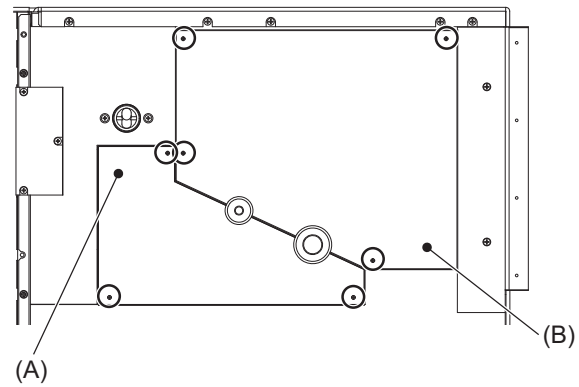

Fig.1
- (1) Remove control box cover with procedure [2]-1.
- (2) Remove the fixing screws (three) of the heat exchanger cover (A), and remove the cover (A). (Fig.1)
- (3) Remove the fixing screws (four) of maintenance cover (B), and remove the cover (B). (Fig.1)